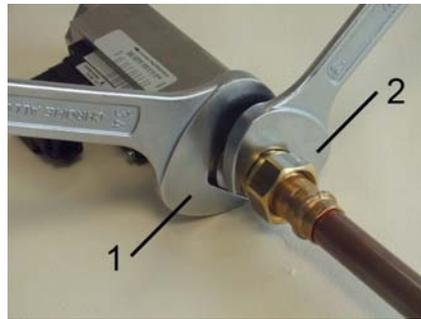

Fig. 10: Screw in the device
2. → Fasten the adapter union of the pipeline with an appropriate spanner (Fig. 10/2). When doing so, lock the process connector in place to prevent slip, using a suitable spanner (Fig. 10/1).